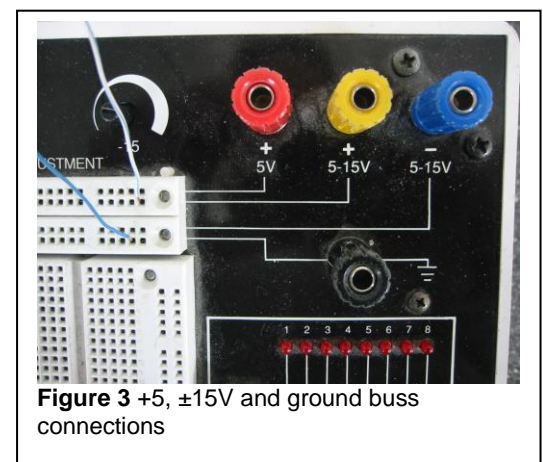

Figure 3 +5, \pm 15V and ground buss connections
5. Attached one each jumper wires to the + **5-15V** buss and the ground buss as shown in Figure 3. Set the adjustment dial to mid-scale.